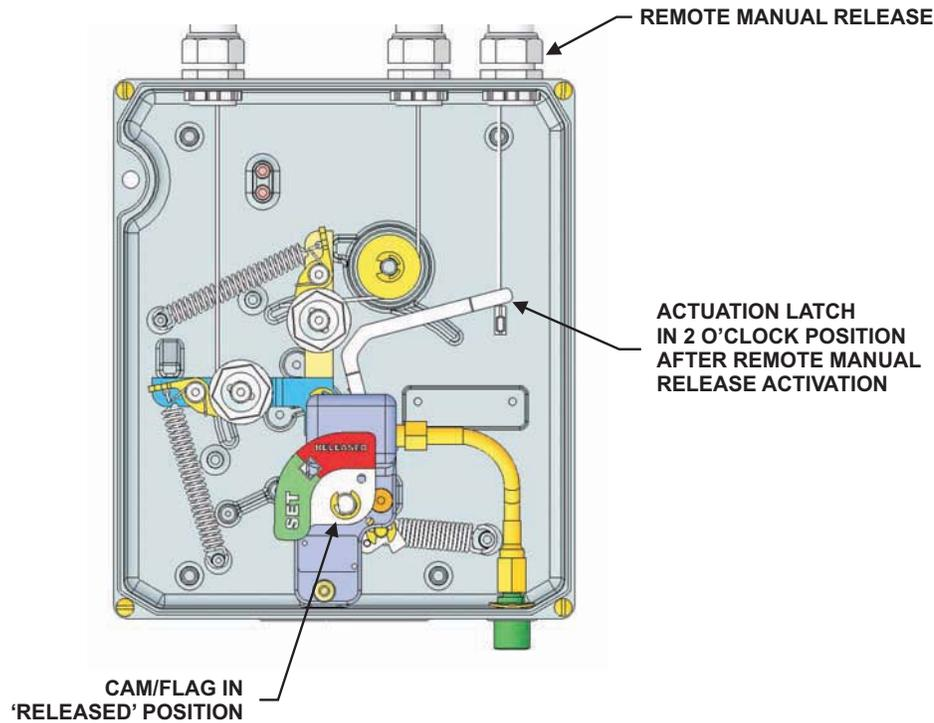

Figure 5-10. Actuation Latch in Release Position
5. Go to the Universal Control Head and check to ensure the Crimp Sleeve (P/N 214951) is against the bottom of the actuation latch and the actuation latch is pulled up at approximately 2 o'clock position (see Figure 5-10).